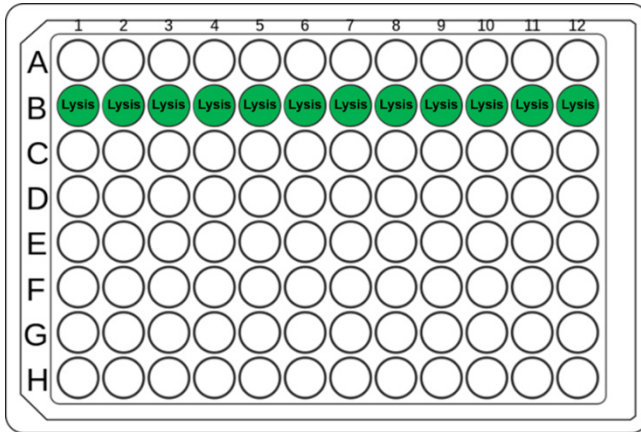

Figure 8: Lysis Mix in Amplification Master Mix Plate.
3. Using a single-channel pipette, aliquot the **Lysis Mix** evenly across all 12 wells of Row B of the 96-well **Amplification Master Mix Plate** (Figure 8). Seal the plate, briefly spin to collect all liquids in the bottom of the wells, and place on ice. Ensure there are no bubbles present in the bottom of the wells.